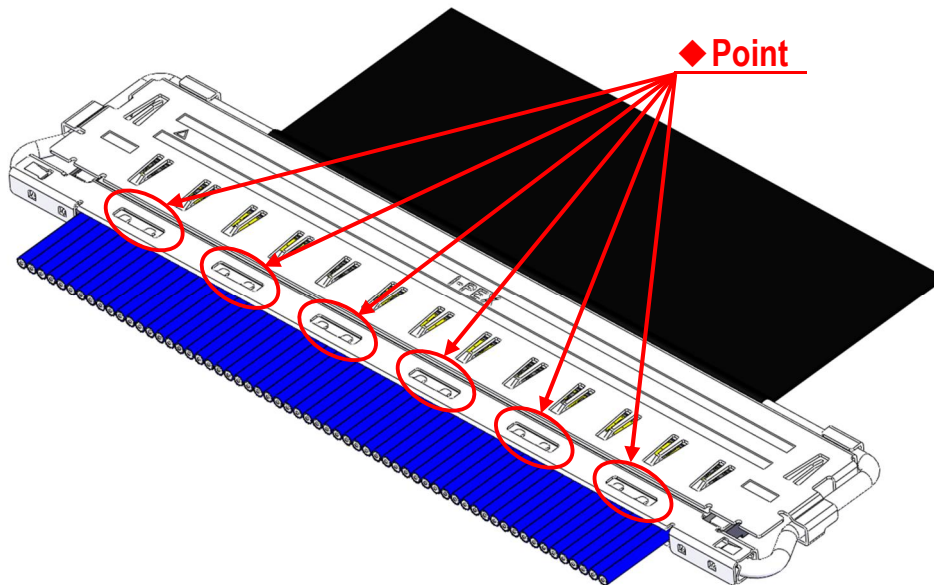

Fig.9 Soldering of Shell-A and Ground Bar
- ④ Soldering shell A, B and ground bar with the soldering iron at all designated points is recommended. (Fig.9,10 ◆ point)